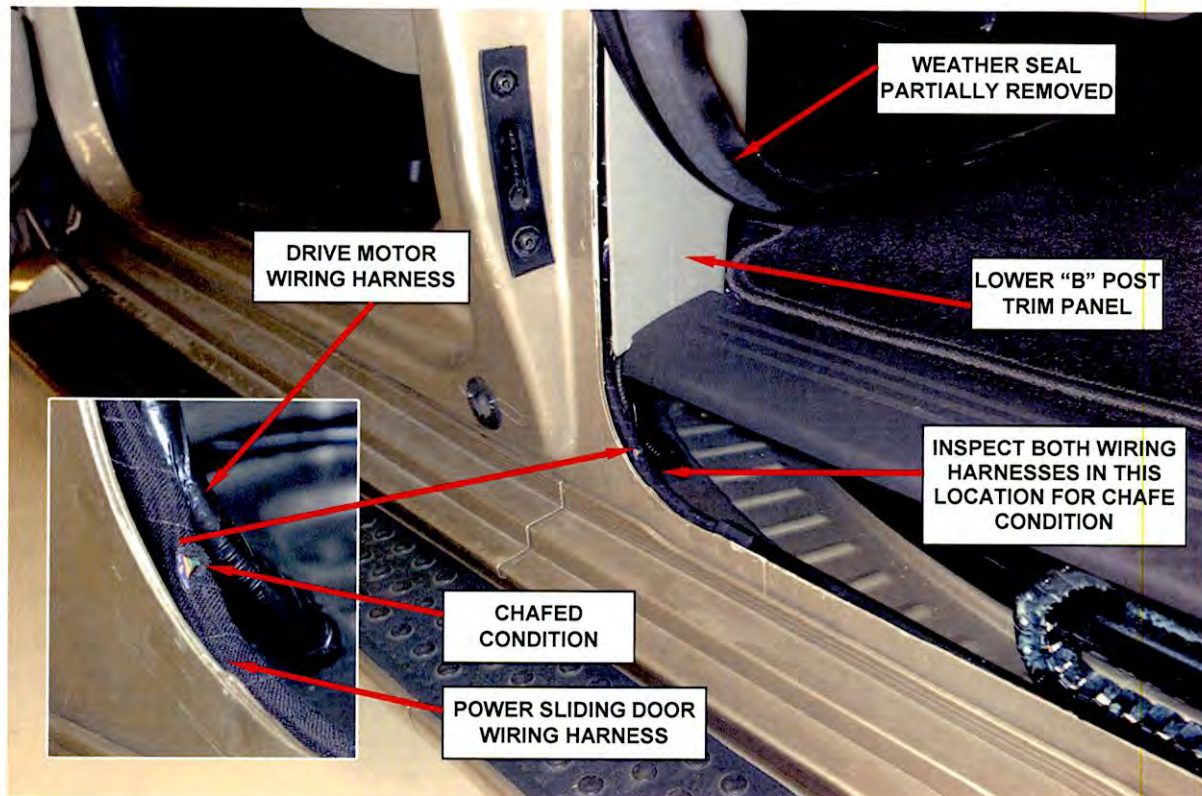
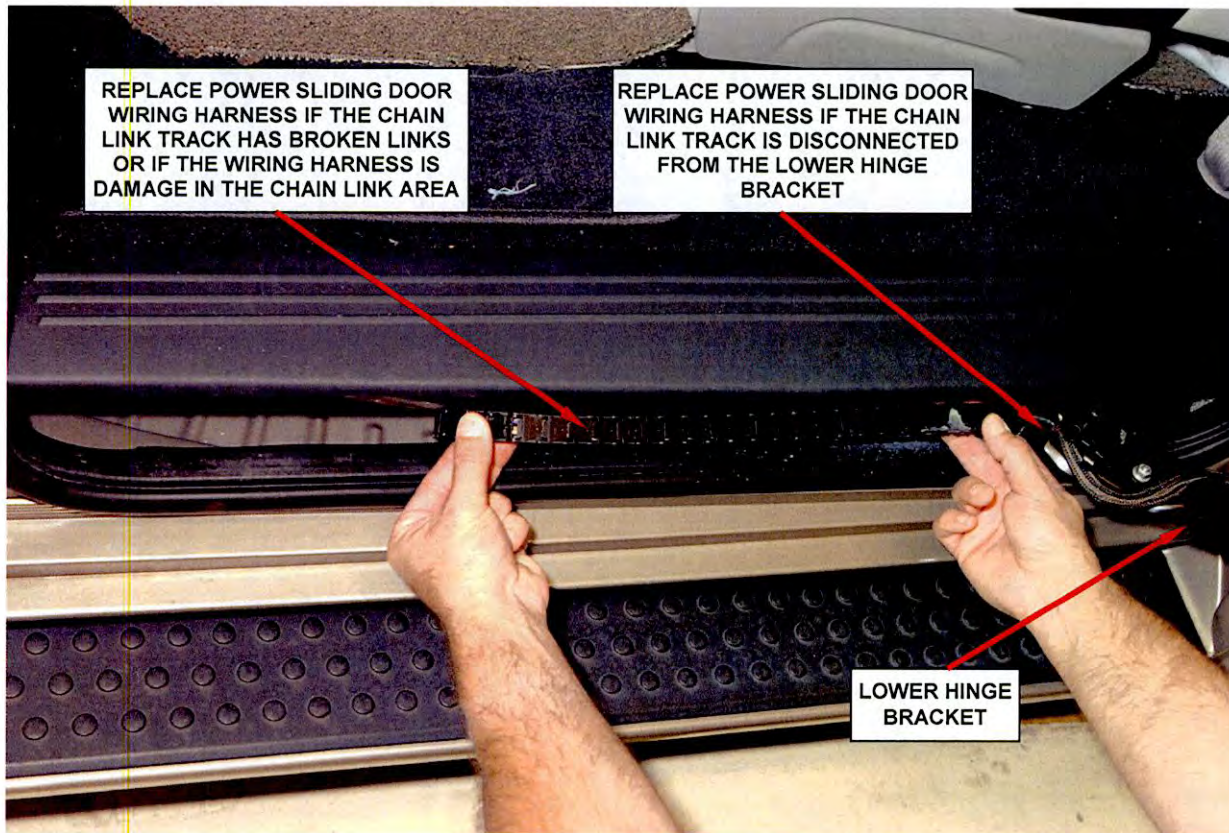

Figure 1 – Inspect Wiring Harnesses (Driver's Side Shown)
Figure 2 – Inspect Chain Link Track For Damage
2. Partially remove the sliding door weather seal (Figure 1).
3. Inspect the drive motor wiring harness and power sliding door wiring harness for a wire chafe condition (Figure 1). Then inspect the chain link track for broken links, damaged wires, or the chain link track being disconnected from the lower hinge bracket (Figure 2).
7. Carefully unsnap the lower “B” post trim panel (Figure 1).
27. Carefully snap the lower “B” post trim panel in place (Figure 1).